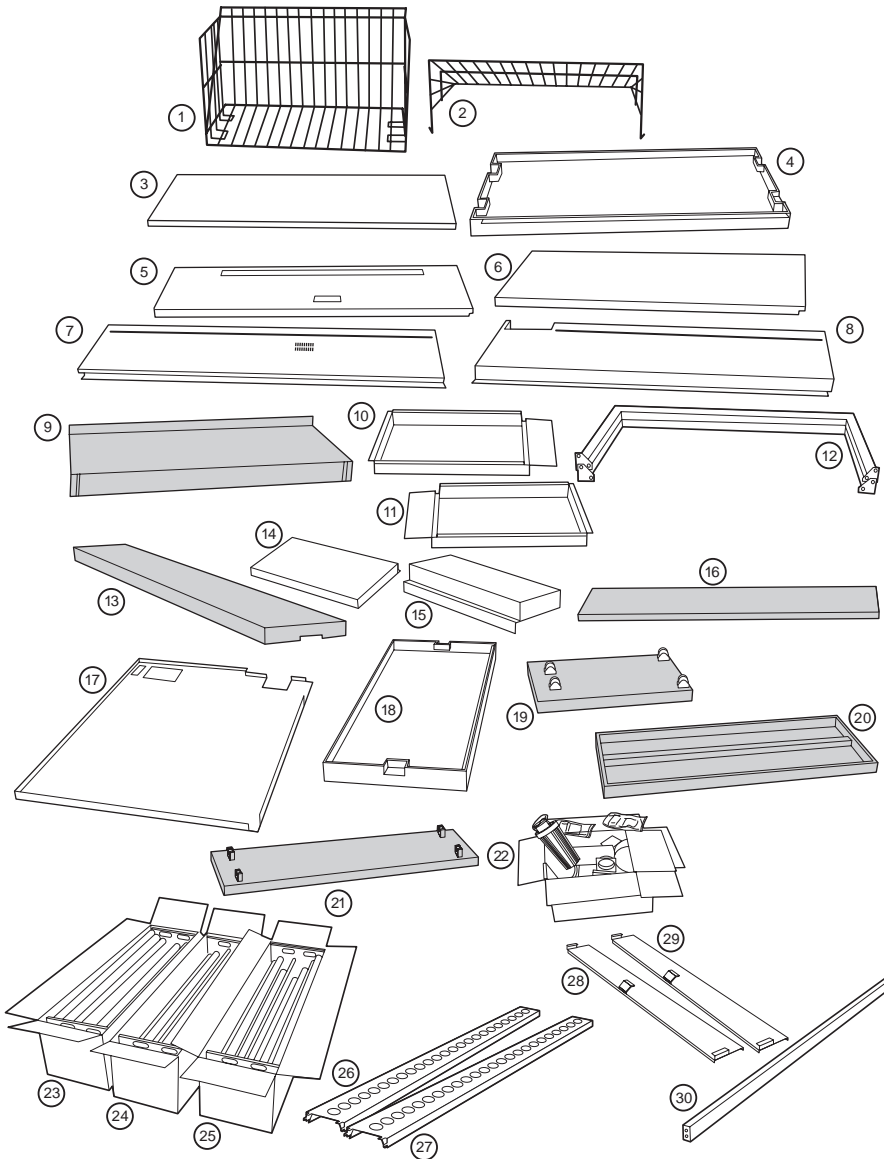

Figure 1-2 OLP parts inventory.
4. As the parts are removed, check them against the inventory list at the beginning of this section and in Figure 1-2.